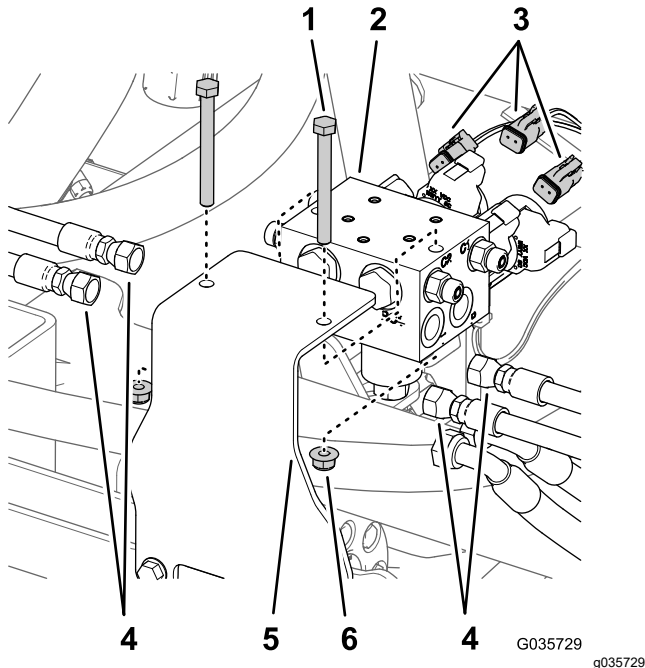

Figure 12
2. Label all the hoses connected to the lift-cylinder manifold (ports C1, C2, C3, and C4), and disconnect them from the cylinder manifold (Figure 12).
3. Disconnect the rear-wire harness connectors from the solenoids of the lift-cylinder manifold (Figure 12).
4. Remove the lift-cylinder manifold from the mounting bracket by removing 2 bolts and 2 locknuts (Figure 12).